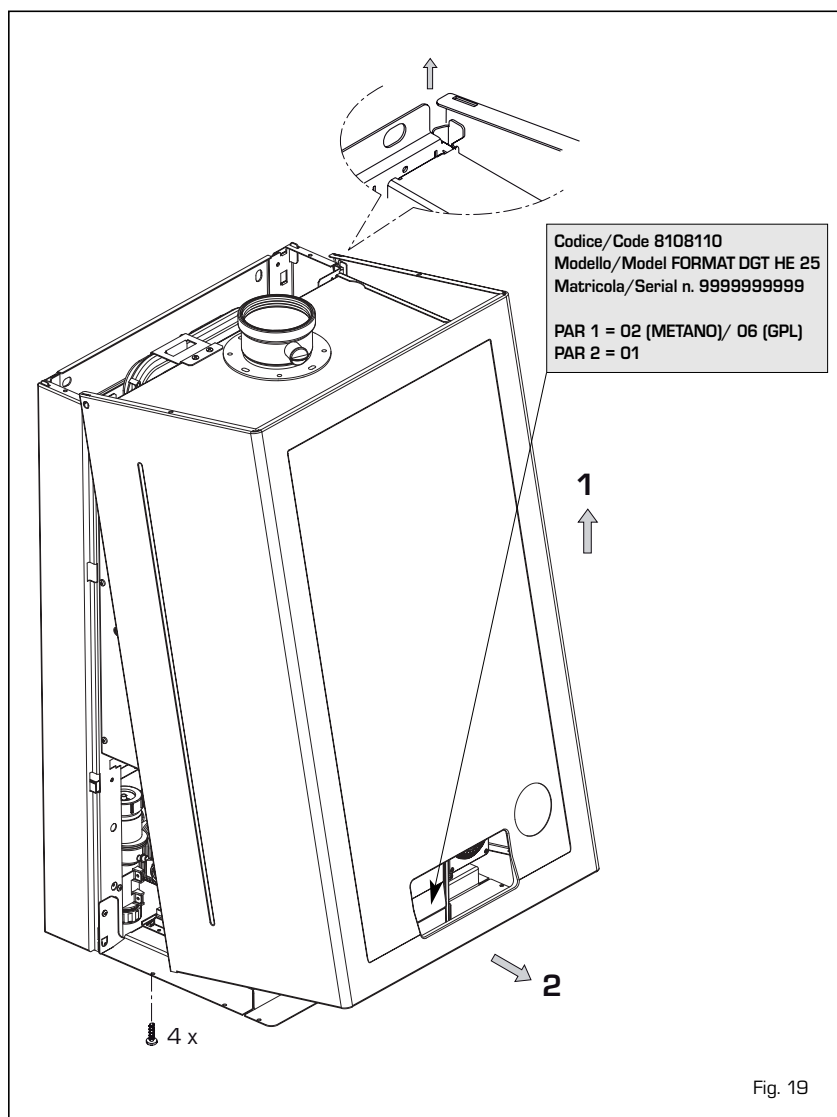

Fig. 19
4.4 DISASSEMBLING THE SHELL (fig. 19)
To simplify maintenance operations on the boiler, it is also possible to completely remove the shell, as shown in figure 19. Turn the control panel to move it forward and be able to access the internal components of the boiler.